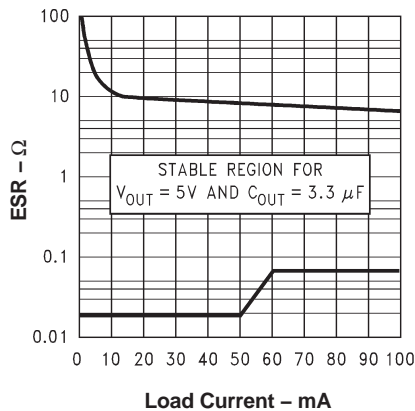
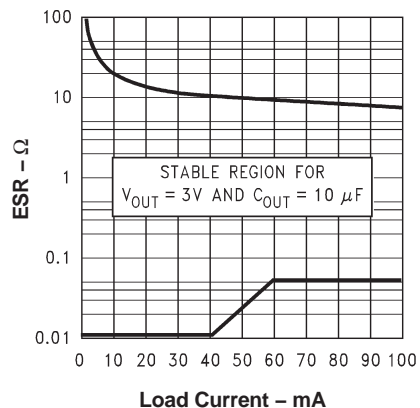

Figure 2. 5-V/3.3- $\mu\text{F}$  ESR Curves
Figure 5. 3-V/10- $\mu\text{F}$  ESR Curves
As a PNP regulator, the LP2981 requires the output capacitor to meet both a minimum capacitance and ESR value. Required ESR values as a function of load current are provided for various output voltages, load currents, and capacitances (see Figure 2 through Figure 5).
- ESR range: see Figure 2 through Figure 5